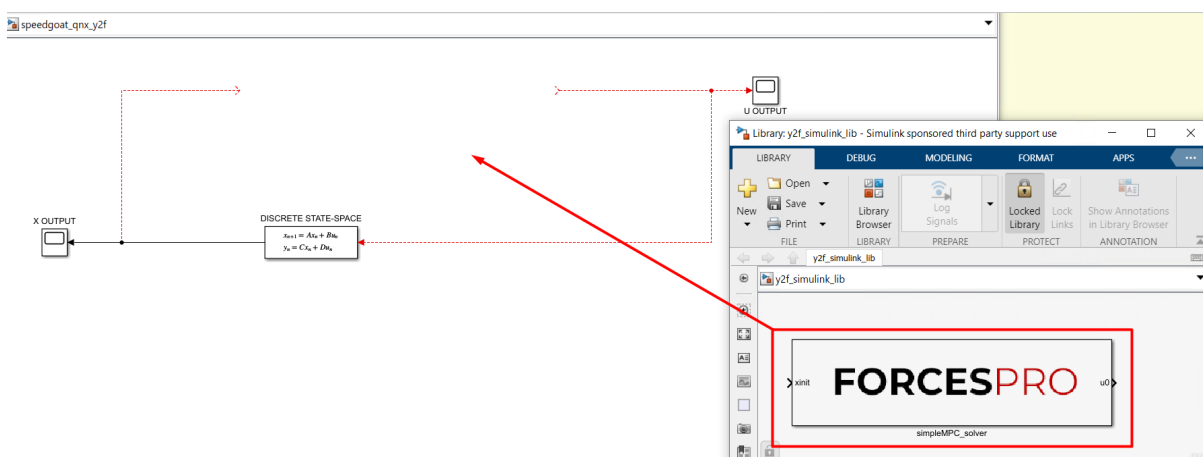

Figure 13.106: Copy-paste and connect the FORCESPRO block.
5. (Figure 13.106) Copy-paste the FORCESPRO Simulink block, contained in the created `y2f_simulink_lib.slx` Simulink model file, into your simulation model and connect its inputs and outputs appropriately.